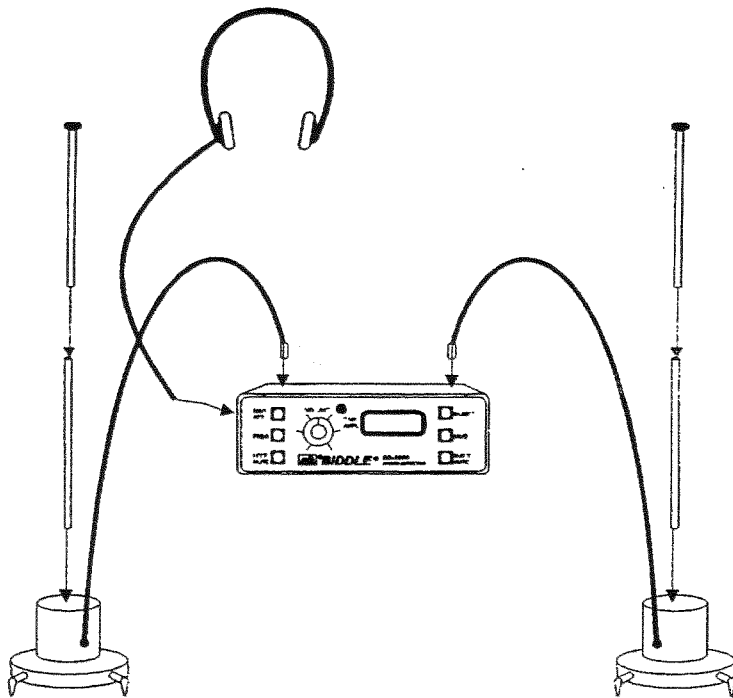

Figure 4: Assemble and Connect Two Pickups
2. Assemble the SD-3000 as shown in Figure 4.